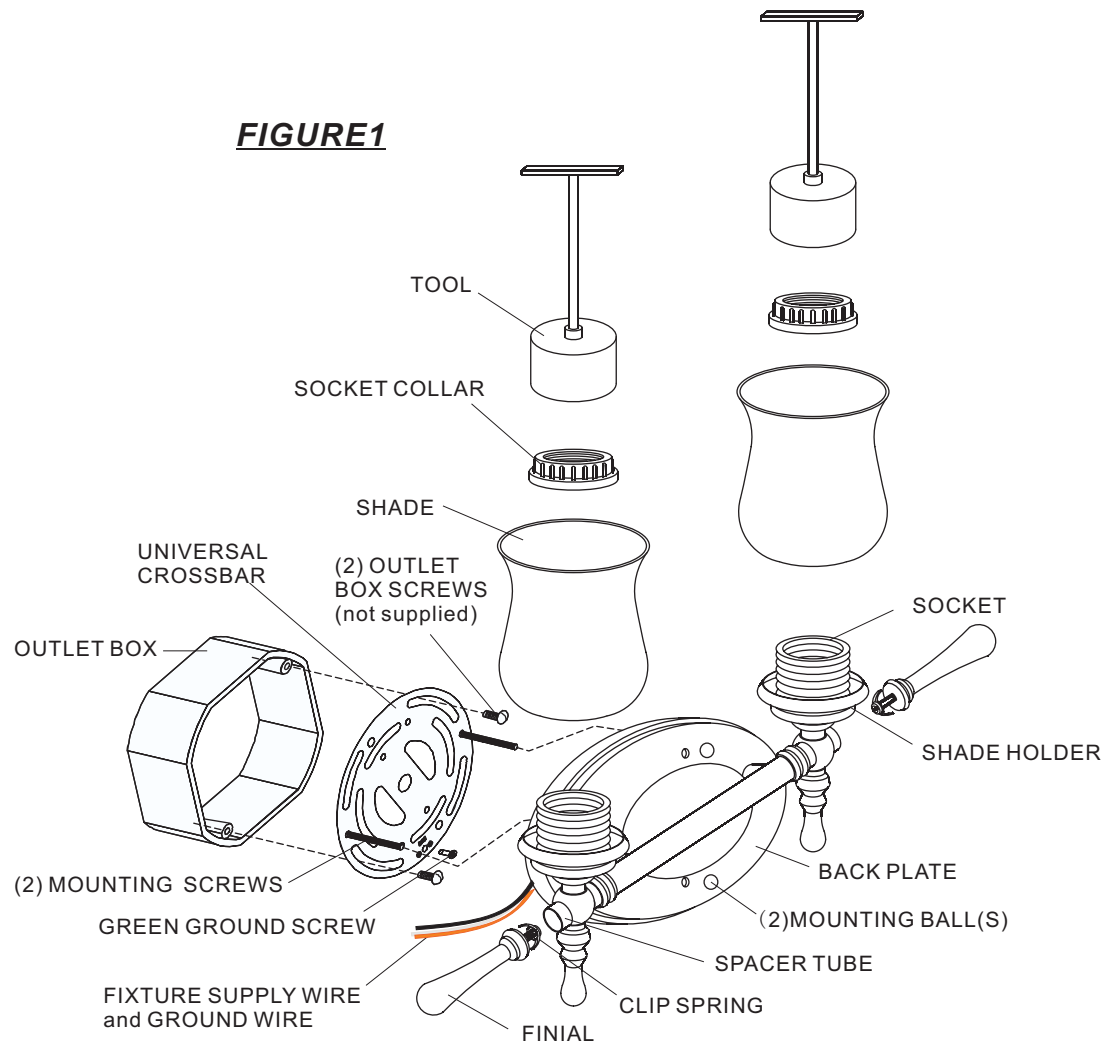

**FIGURE 1**
1. Before beginning installation, carefully unpack and identify all parts, referring to illustration (FIGURE 1).
4. Locate the UNIVERSAL CROSSBAR and secure to OUTLET BOX with (2) OUTLET BOX SCREWS (not supplied).
6. Carefully tuck all wires into the WALL MOUNTED OUTLET BOX and position the fixture over the outlet box. Align the HOLES in the BACK PLATE with the (2) MOUNTING SCREWS attached to the UNIVERSAL CROSSBAR. Pass the fixture over the (2) MOUNTING SCREWS and secure against by threading (2) MOUNTING BALLS onto end of screw. Tighten until snug.